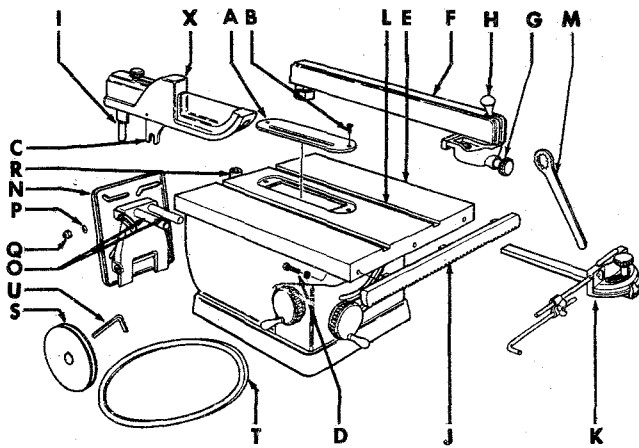
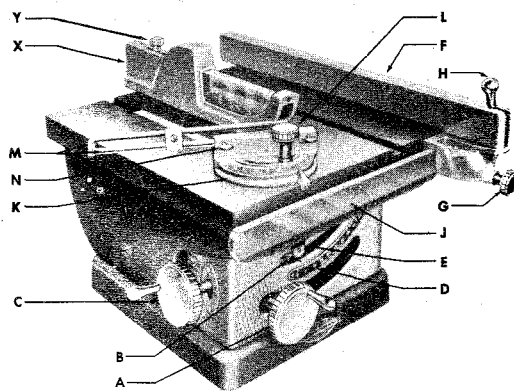

Figure 1
Figure 2
Your saw is shipped with the following loose parts wrapped separately and packed in same crate with the saw (see figure 1): Rip fence rack (J), three screws and lock washers (D), rip fence (F), guard assembly (X), miter gage (K), motor mount (N), motor pulley (S), V-belt (T), arbor nut wrench (M), and Allen wrench (U). Thoroughly clean the saw and these loose parts with a dry cloth. Remove the rust-preventive coating on the saw table by wiping it off with a cloth soaked in kerosene.
CHECK ARBOR NUT — Remove two screws (B, fig. 1) and lift out the insert (A, fig. 1). Check tightness of saw arbor nut (part 6362, fig. 5), using wrench (M, fig. 1). Replace insert and screws.
ALIGN SAW BLADE WITH TABLE GROOVES — Using elevation hand wheel (A, fig. 2), set saw blade for deepest cut. Make pencil mark on tooth that is just above table top at front of blade. Measure distance from this tooth point to right-hand table groove (L, fig. 1). Rotate blade by hand to place this same tooth just above table top at rear — then again measure distance from tooth point to right-hand groove. The two measurements must be exactly equal. If not,
INSTALL RIP FENCE — Secure the rack (J, fig. 1) to the front skirt of the saw table, using the three screws and lock washers (D, fig. 1). Be sure to position rack with gear teeth facing downward — and with top edge of rack flush with the top of table. Pull the rip fence knob (G, fig. 1) out to permit the guide of the rip fence (F, fig. 1) to slide over rack (J, fig. 1) — then place the rip fence on the saw table as shown in figure 2. A slight pressure must be exerted on the rip fence to cause it to seat properly on the rack. This is necessary because there are two bar alignment springs which act on the inner lip of the rack to hold the fence in continuous alignment. Slide fence along rack, noting clearance between fence and table top. If any part of the fence (other than the sliding pad at the rear) drags on the table top, or if the clearance between fence and table varies appreciably as fence is moved, rack (J, fig. 1) must then be readjusted to be flush with the table top and provide the proper clearance. This can be done by again loosening screws (D, fig. 1) to reposition the rack.
ADJUSTING RIP FENCE PARALLEL TO SAW BLADE — Place the rip fence next to the right-hand table groove (L, fig. 1) and clamp it in place by pushing down on the cam clamp lever (H, fig. 1). Fence should be perfectly parallel to the groove. If not, loosen the four screws (parts S-1264 and S-1265, fig. 4) which secure the guide to the fence. Align fence with groove — then retighten screws.
MOUNTING GUARD ASSEMBLY — Place guard assembly (X, fig. 1) on the saw by inserting pin (I, fig. 1) into the hole in the splitter blade bracket (R, fig. 1) at the rear of the saw. Place guard assembly down firmly so that the semi-circular notch in the splitter blade (C, fig. 1) slips between the two splitter blade clamp washers (part 69, fig. 5). Check to make certain that the splitter blade is perfectly in alignment with the saw blade. This can be done by pressing two straight edge boards against sides of blade, and pushing them together past the splitter while holding them tightly against blade. Be sure that saw blade is not revolving when making this adjustment. If adjustment is required, loosen the two screws (parts S-1269, fig. 4) which secure the splitter blade bracket to the cradle. Align splitter with blade, then retighten screws. Further adjustment can be made, if necessary, by varying the number of flat washers (parts S-970 and S-1066, fig. 5) mounted between the clamp washers and cradle. The pressure on these splitter blade clamp washers can be increased or decreased by tightening or loosening the cap screw (part S-1090, fig. 5) which secures the clamp washers and the flat washers to the cradle.
MOUNTING THE MOTOR—Mount the motor (see Motor Specifications) to the motor mount assembly (N, fig. 1) — then mount the motor support assembly to the saw by sliding the two pins (O, fig. 1) into the mounting holes at the rear of the cradle. Place pulley (S, fig. 1) on the motor shaft, line it up with the pulley on the saw arbor, then tighten the pulley set screws. Install V-belt (T, fig. 1) over pulleys and adjust the belt tension by moving the motor support assembly towards or away from the cradle. Motor should be allowed to rest or hang against the belt to obtain the automatic belt tightening feature — and belt should be snug. If adjustment is correct, clamp the motor support in place by tightening the two square head set screws (part S-1267, fig. 4). Adjust pressure on spring washer (P, fig. 1) by means of stop nut (Q, fig. 1) so that the motor operates with a minimum of vibration. Too much pressure will prevent the weight of the motor from keeping the belt under proper tension. Operate the saw by hand in all positions to make certain that there is no interference and that belt has proper tension in all positions.
PLACEMENT OF MITER GAGE—The miter gage assembly (K, fig. 1) can be used in either one of the two table grooves.
The following controls should be tested until the operator is thoroughly familiar with their uses. See figure 2.
ADJUSTING TILT GAGE — Using an accurate square, set saw blade at right angles to table top. Then adjust the pointer on the tilt gage (D, fig. 2) to "0".
ADJUSTING MITER GAGE SCALE — Using an accurate square, block the miter gage at the square position. Make a trial cut on a fairly wide board, then check this cut with the square. If cut is accurate, set the pointer on the miter gage scale (K, fig. 2) to "90".
ADJUSTING CAM CLAMP LEVER — If clamping action of lever (H, fig. 2) is too tight or too loose, it can be adjusted by increasing or decreasing the effective length of the rip fence clamp rod (part 6315, fig. 4). This is done by readjusting the stop nut (part S-1260, fig. 4) on the end of the clamp rod in back of the fence. When properly adjusted, the clamping lever should lock in a horizontal position or slightly lower.
ADJUSTING DEPTH DIAL — The depth dial (B, fig. 2) should read "0" when saw blade is just flush with the surface of the table. This adjustment can be made by sliding the lift dial tape (part 6354, fig. 5) on the dial gear (part 33, fig. 5). Adjustment will be necessary after the blade has been sharpened and the original diameter is reduced — or when a blade of a smaller diameter other than 8 inches is used.